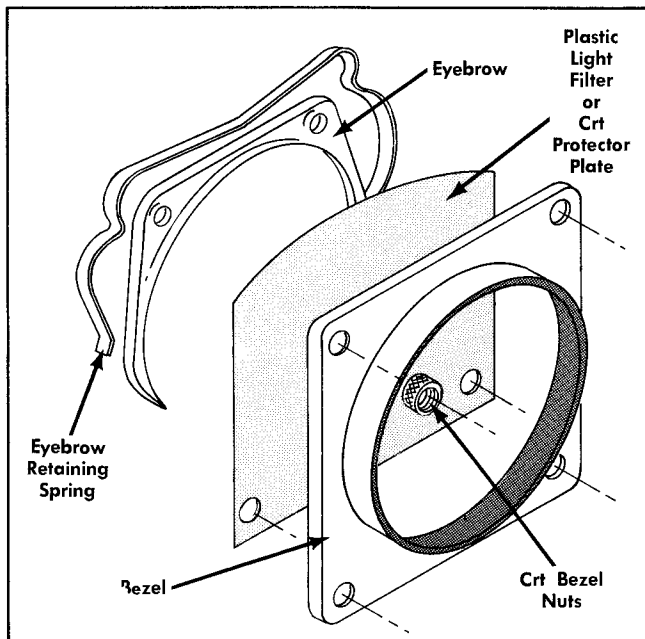

Fig. 4-3. Crt bezel and eyebrow arrangement.
1. Remove crt bezel nuts, bezel and plastic light filter or crt protector plate (see Fig. 4-3).
2. Remove plastic eyebrow and retaining spring from the top of the crt (see Fig. 4-3).